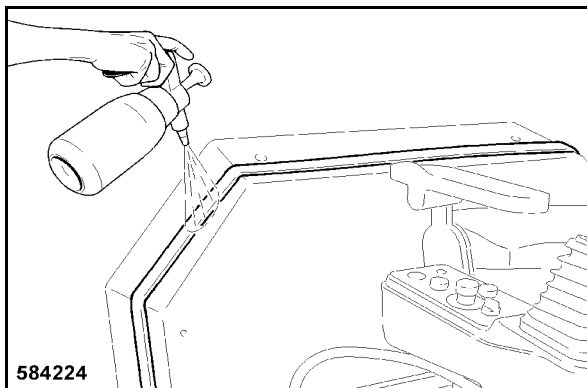

Fig. 204
- Spray the sealing tape with soapsuds (Fig. 204), to be able to slide the cabin on the operator's stand.